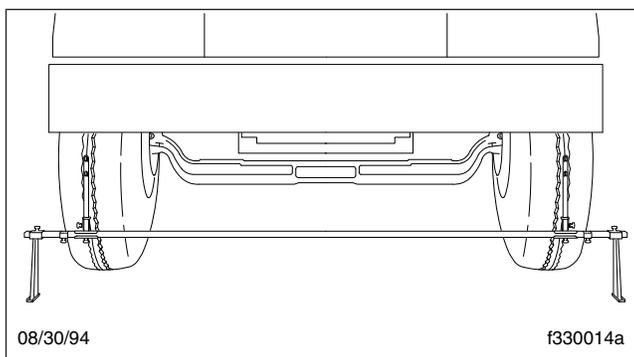
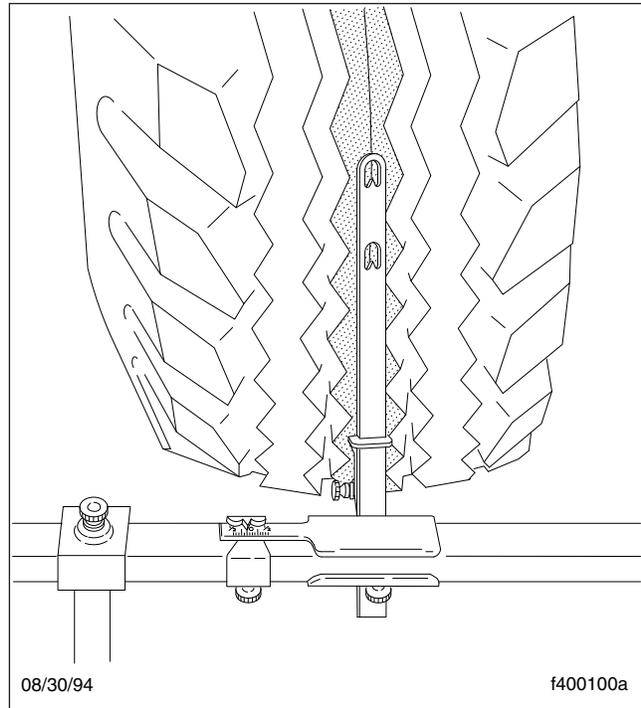

Fig. 7, Trammel Bar Positioning
Fig. 8, Setting Trammel Bar Pointers
7. Place the trammel bar at the front of the tires and adjust the scale end so that the pointers line up with the scribe lines. See **Fig. 7** and **Fig. 8**.